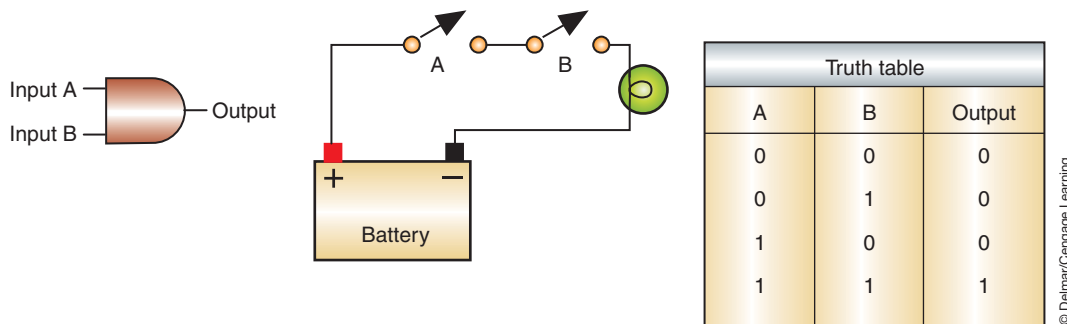
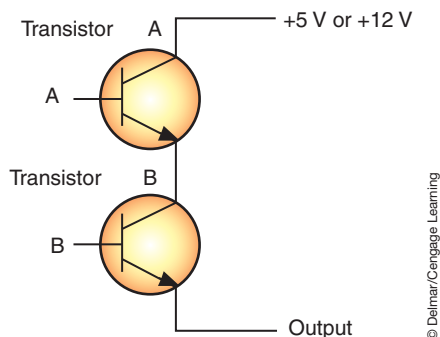

FIGURE 9-12 The AND gate symbol and truth table. The AND gate operates similar to switches in series.
FIGURE 9-13 The AND gate circuit.
2. **AND gate:** The AND gate will have at least two inputs and one output. The operation of the AND gate is similar to two switches in series to a load (Figure 9-12). The only way the light will turn on is if switches A *and* B are closed. The output of the gate will be high only if both inputs are high. Before current can be present at the output of the gate, current must be present at the base of both transistors (Figure 9-13).